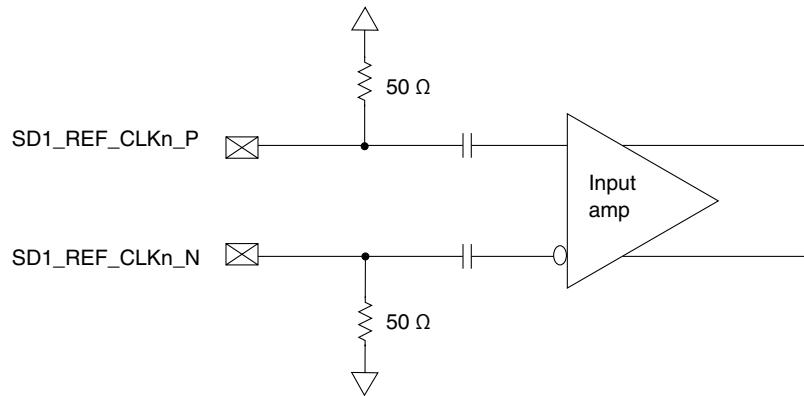

Figure 73. Receiver of SerDes reference clocks
- The SD1_REF_CLKn_P and SD1_REF_CLKn_N are internally AC-coupled differential inputs as shown in Figure 73. Each differential clock input (SD1_REF_CLKn_P or SD1_REF_CLKn_N) has on-chip 50- Ω termination to SGND n followed by on-chip AC-coupling.
- For an external DC-coupled connection, as described in Figure 73, the maximum average current requirements set the requirement for average voltage (common mode voltage) as between 100 mV and 400 mV.